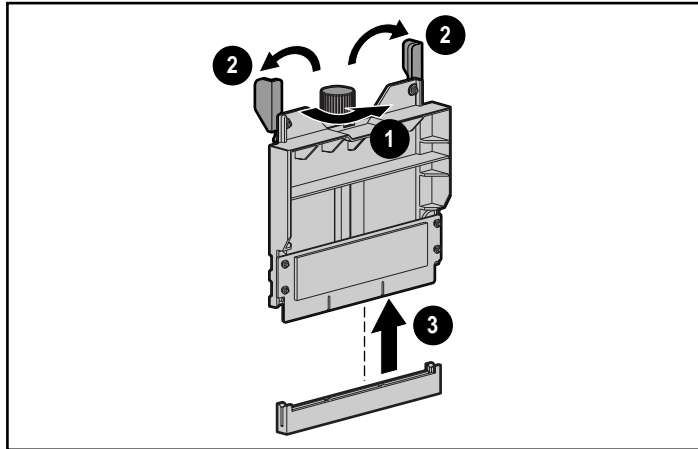

Figure 4-3. Removing the terminator board
2. Remove one of the terminator boards by turning the retaining knob counterclockwise, releasing the side tabs and pulling up as shown in Figure 4-3.